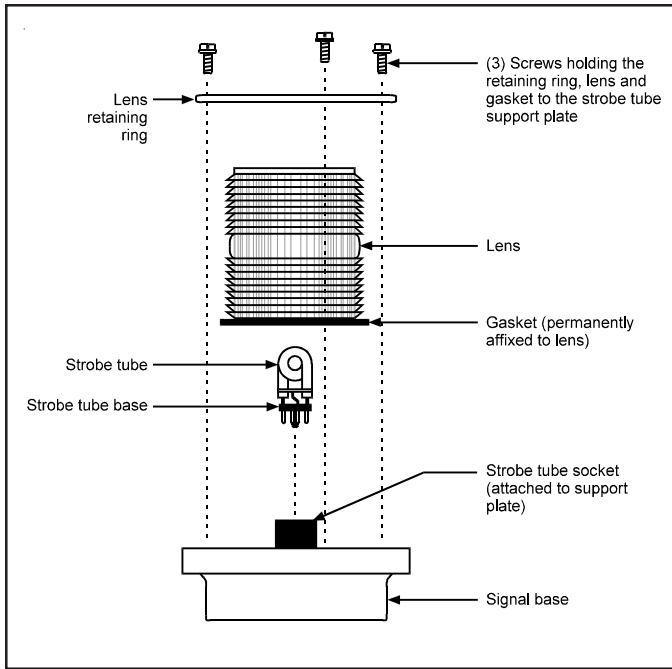

Figure 4. Replacing the Strobe Tube on the 92-N5 Series Signals
- b. **92 Series:** Refer to Figures 4 and 5. Remove the screw in the clamp ring and remove the ring.